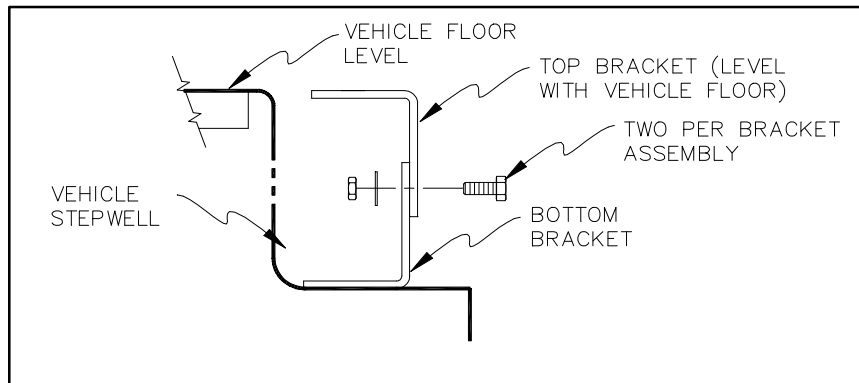

FIGURE 2-3: STEPWELL BRACKET
- a. Refer to **Figure 2-3**. Using four 1" x 3/8" bolts, 3/8" washers, 3/8" lock washers and 3/8" hex nuts, assemble the two bracket assembly kits.